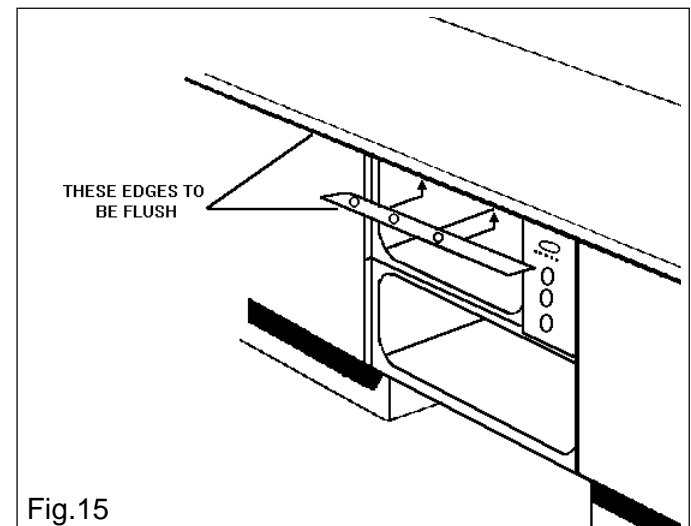

Fig.15
- Place the top trim flush with the edge of the worksurface, with the cork spacers upover (see Fig.15) and screw into position using the screws supplied with the cooker.